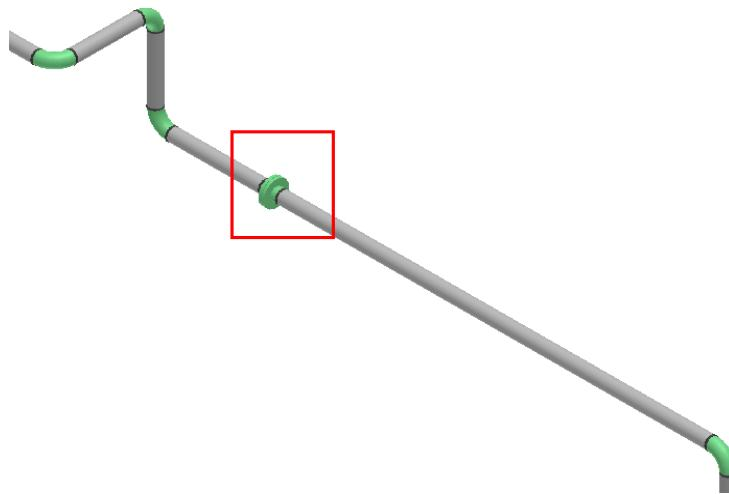

Figure 13.8: Placed Takedown Joint in a Pipe Run
- Click on the graphic view to accept the position of a split on the pipe run. The highlighted portion in Figure 13.8 shows takedown joint (flange set) placed in a pipe run.